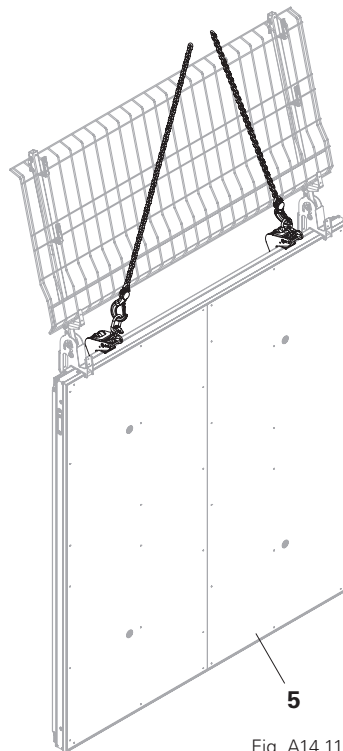

Fig. A14.11
1. Remove the toe board (86) from a safe workplace.
2. Fit the Lifting Hook MX 1.5t (6). Ensure that the crane chain is on the formlining side. (Fig. A14.11)